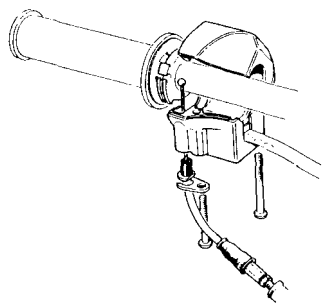

Figure 52 Right Handlebar Twistgrip.
2. Remove the two screws from the base of the right hand switch cluster. Separate the two halves and unhook the upper cable nipple from the twist grip drum. (Fig. 52)